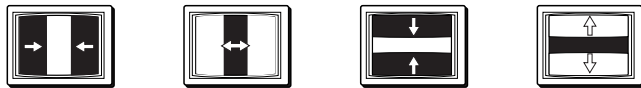

Figure 3-4 — Curtain wipe effects
- A curtain wipe causes the preview image to appear to unroll over the program image in two directions simultaneously. A curtain wipe can have either hard (sharp) or soft (fuzzy) edges. The preview image can have the following transitions (figure 3-4):